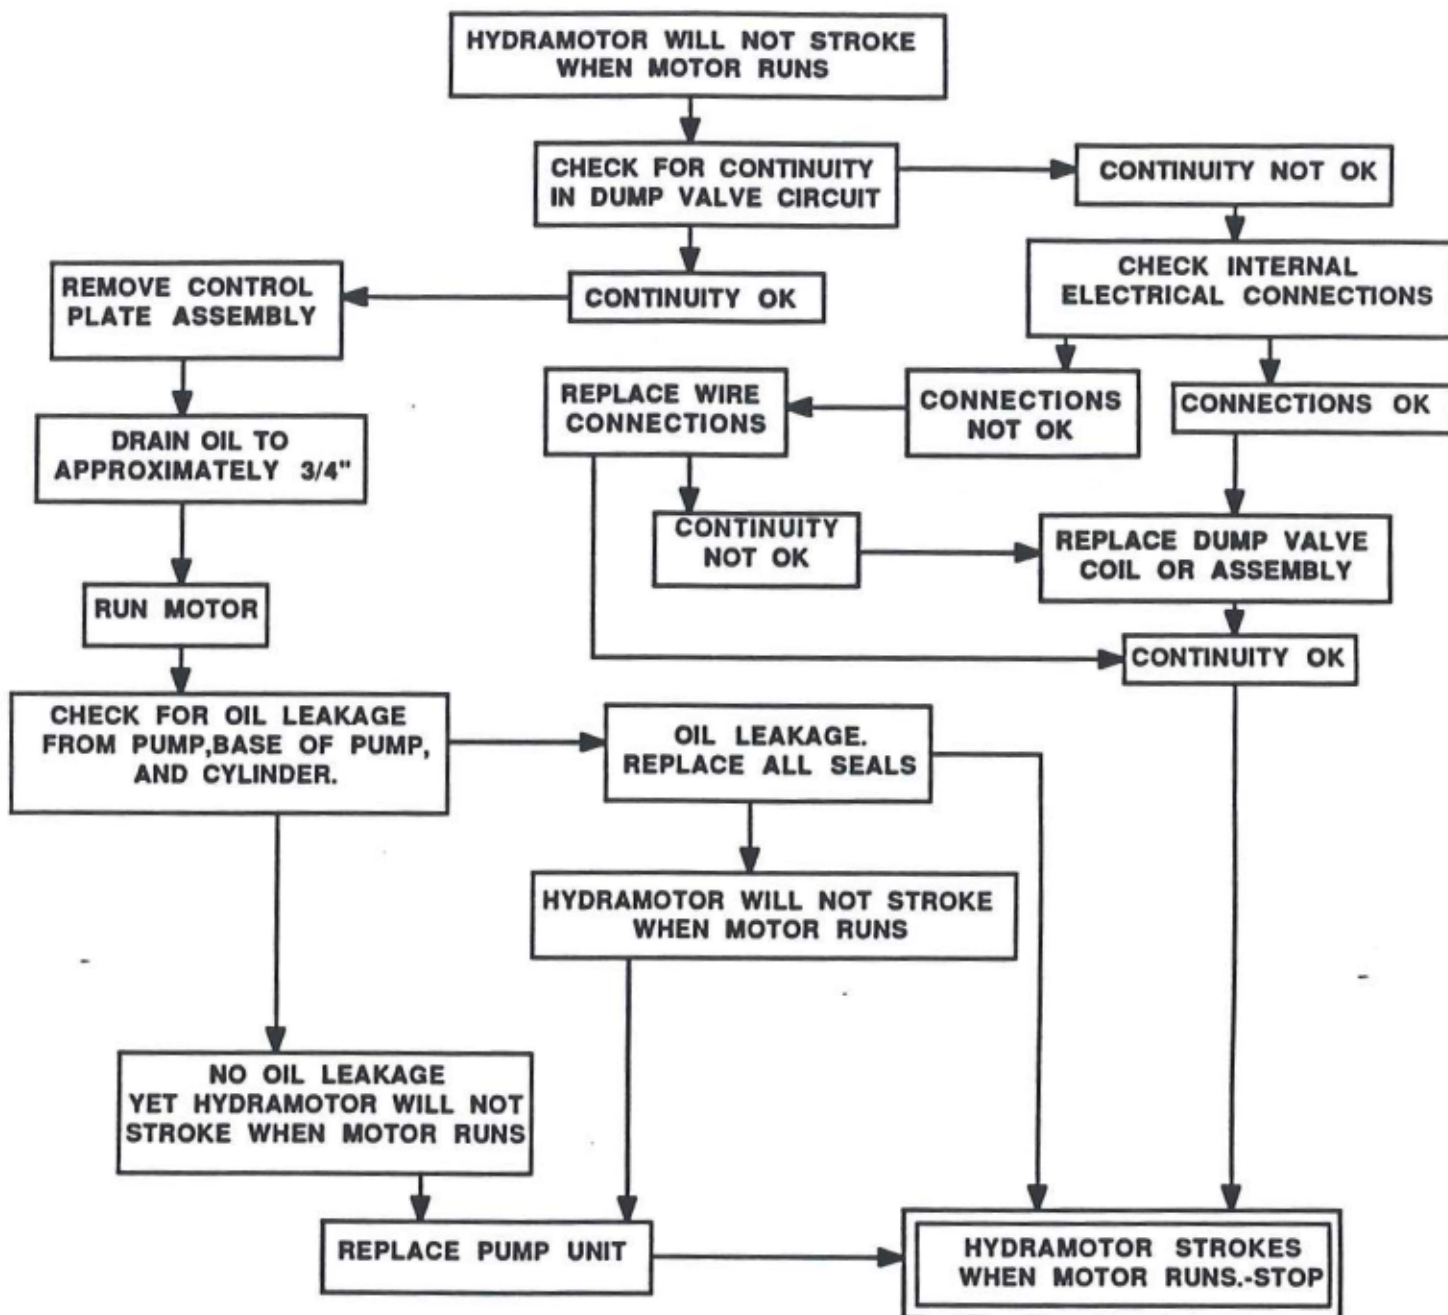

Figure 4-10A. Troubleshooting Guide. Motor Runs Properly
4.4.1 Figures 4-10A, B and C are flowchart troubleshooting guide examples as follows: